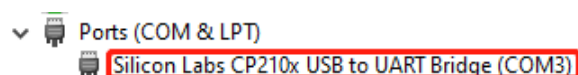

Figure 4: USB Port
Step 6: Select the correct “**COM Port**” (USB Port shown in **Figure 4** above).